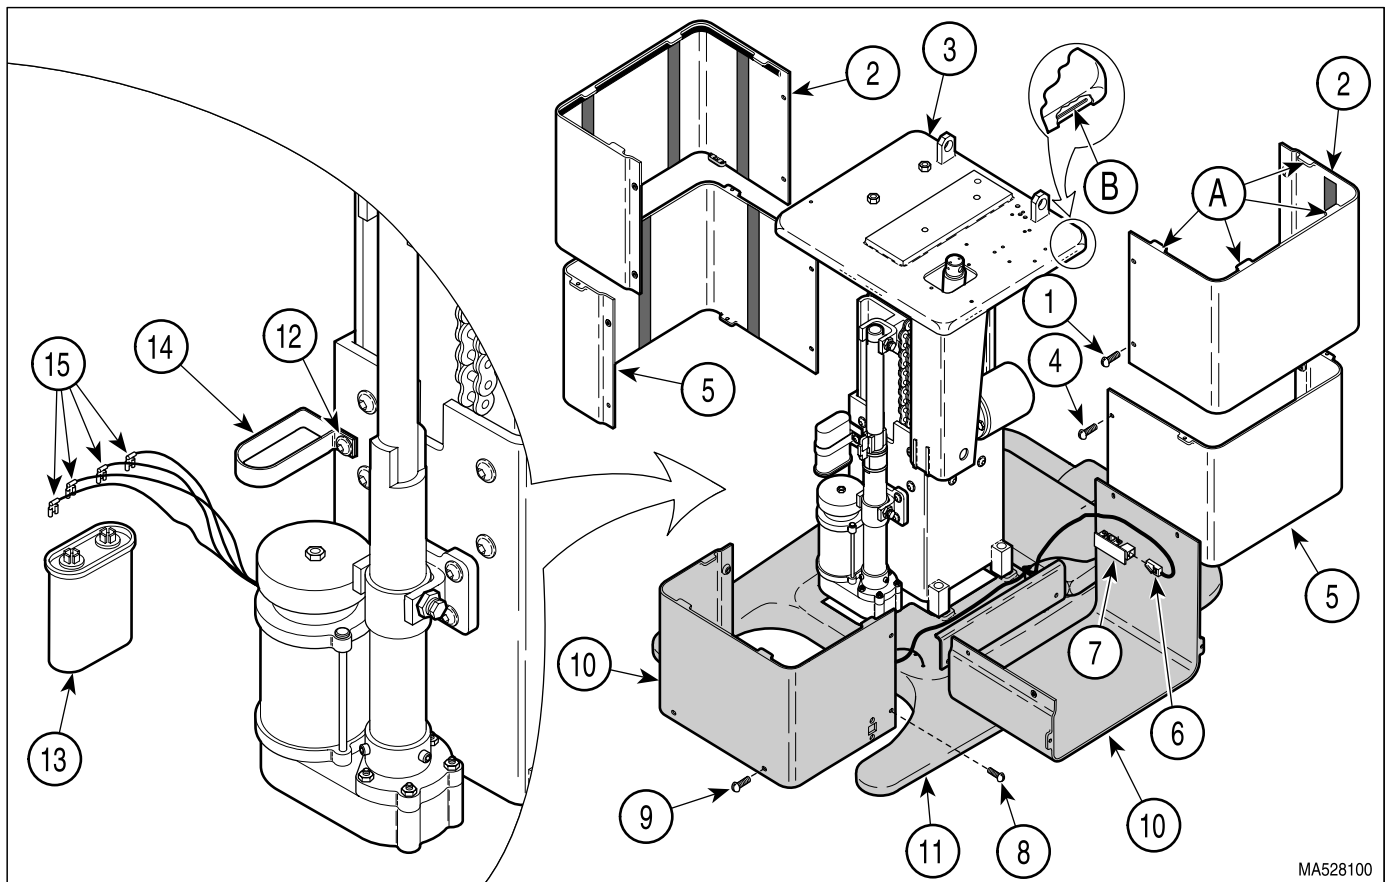

Figure 4-19. Base Capacitor Removal / Installation
- (2) Unplug table power cord from outlet receptacle.
- (3) Remove four screws (1, Figure 4-19) and R.H. and L.H. outer shrouds (2) from column adapter weldment (3).
- (4) Remove four screws (4) and R.H. and L.H. middle shrouds (5).
- (5) Disconnect two modular cords (6) from two inlet PC boards (7).
- (6) Remove four screws (8), and four screws (9); then partially remove R.H. and L.H. inner shrouds (10) from base casting (11).
- (7) Loosen screw (12).
- (8) Push base capacitor (13) out of capacitor strap (14).